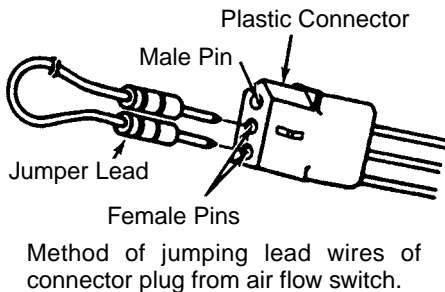

Figure 23
For test purposes, the air flow switch may be "wired out" of the system. This will eliminate the need for air flow across the sensing thermistor to energize the power supply (see Fig 23).
3. Disconnect the three-pin plastic connector and jumper the two female pins (white wire to white-brown wire) as shown in Fig. 23.
4. If voltage did not appear (Step 3), disconnect power to power pack. Locate air flow switch and remove power pack cover. Disconnect the three-pin plastic connector. Jumper the two female pins (white wire to white-brown wire) as shown in Fig. 23. Reconnect power to power pack. Turn power switch "ON."